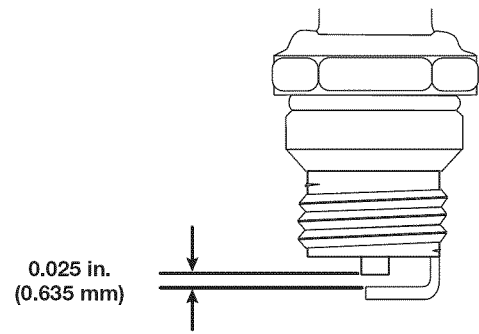

Fig. 25
6. Use a feeler gauge to set the air gap at **0.025 in. (0.635 mm)** (Fig. 25).